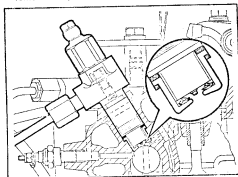

Fig.30 - Location of atomizer washers
4. Renew the atomizer seal washers, fitting the new washers as shown in Fig.30